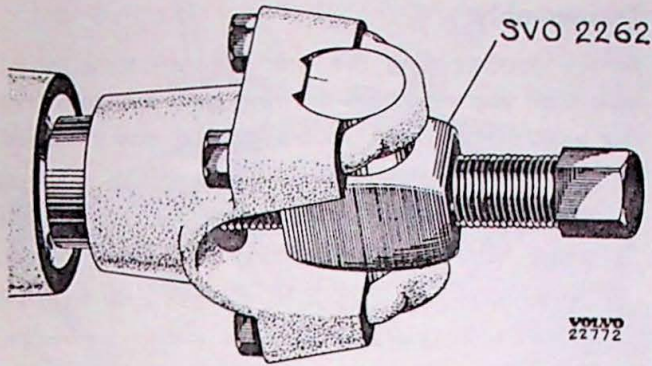
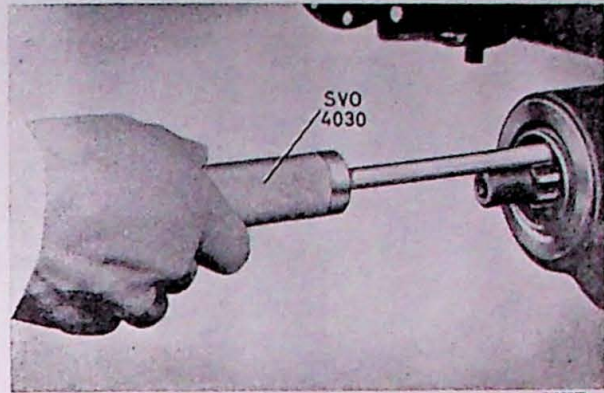

Fig. 5-5. Removing the flange
Fig. 5-6. Removing the oil seal
2. Remove the flange nuts by using wrench SVO 2409 as rapport. Pull off the flange with tool SVO 2262, see Fig. 5-5. Remove the old oil seal with SVO 4030, Fig. 5-6.
8. Remove the nut for the flange (22). Use tool SVO 2409 as rapport. Pull off the flange with puller SVO 2262, see Fig. 5-5. Press off the pinions (28).
9. Remove the oil seal (25) by using SVO 4030, see Fig. 5-6. Then remove the washer (24) and the forward pinion bearing (27).